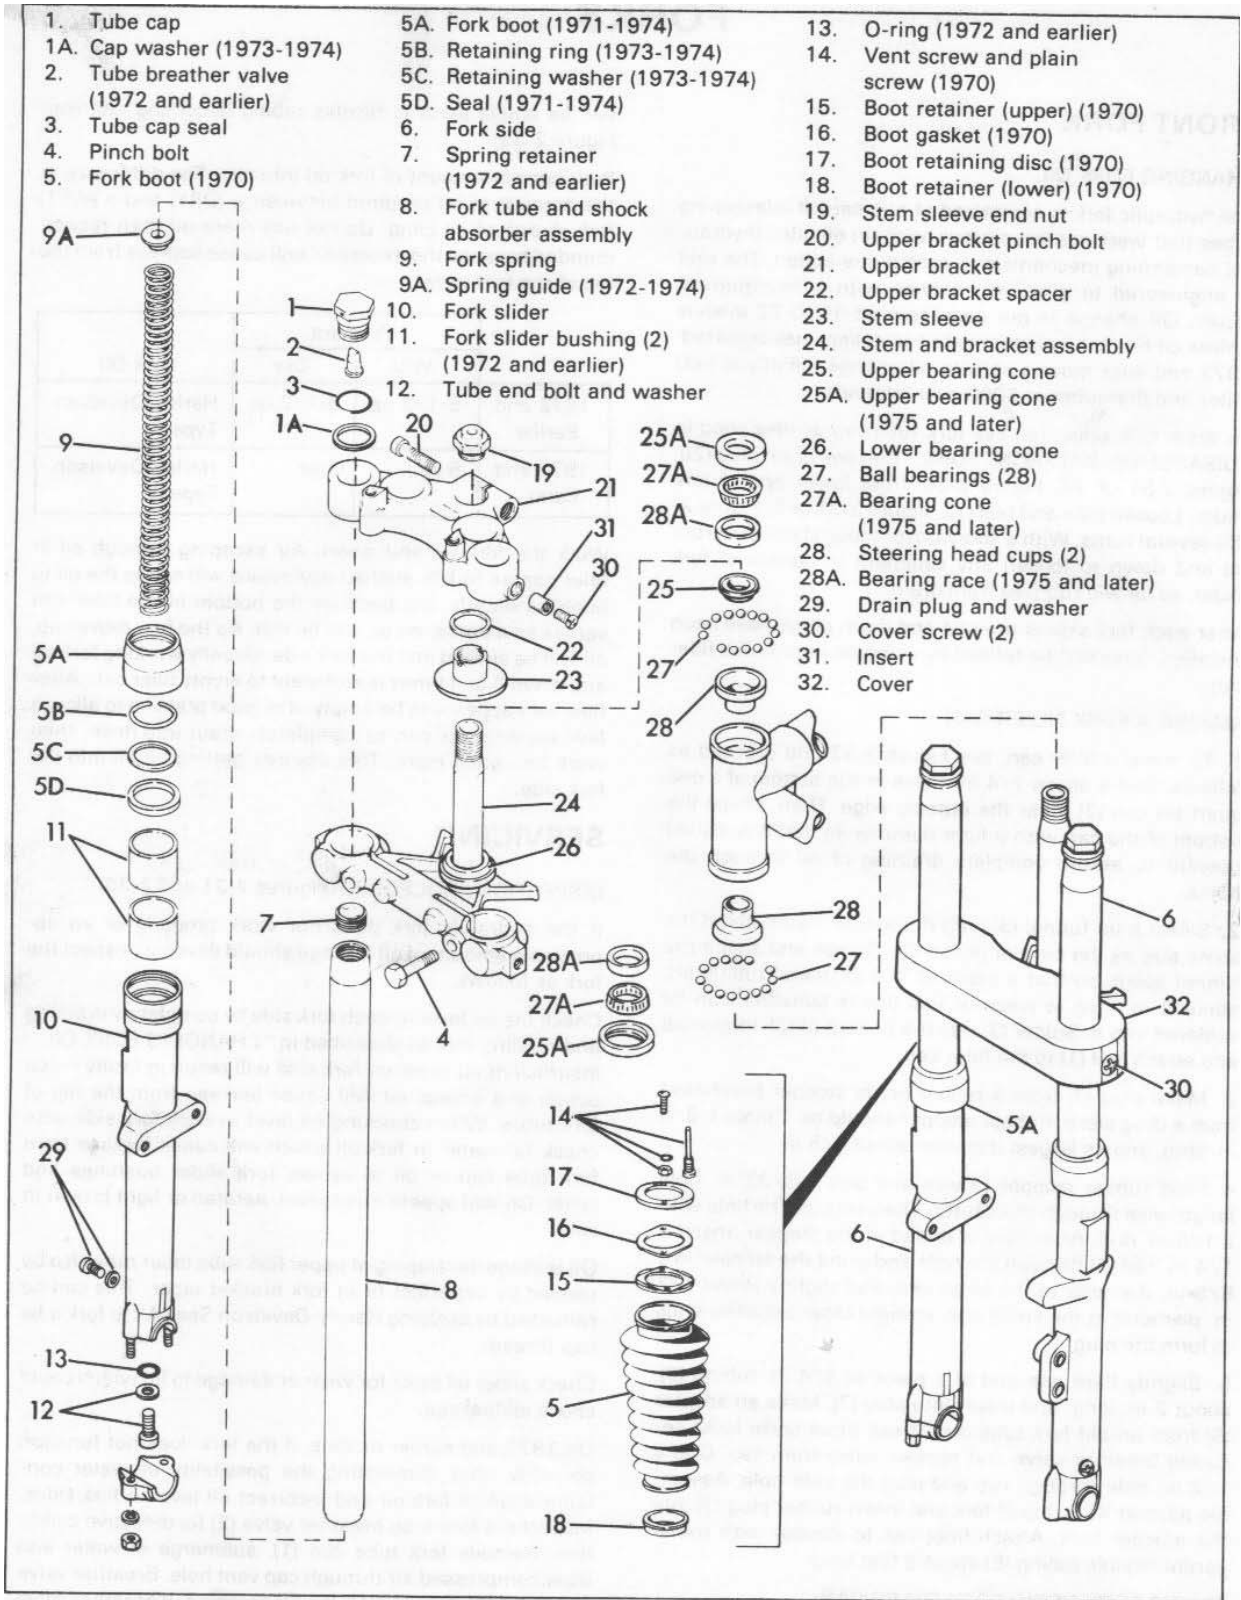
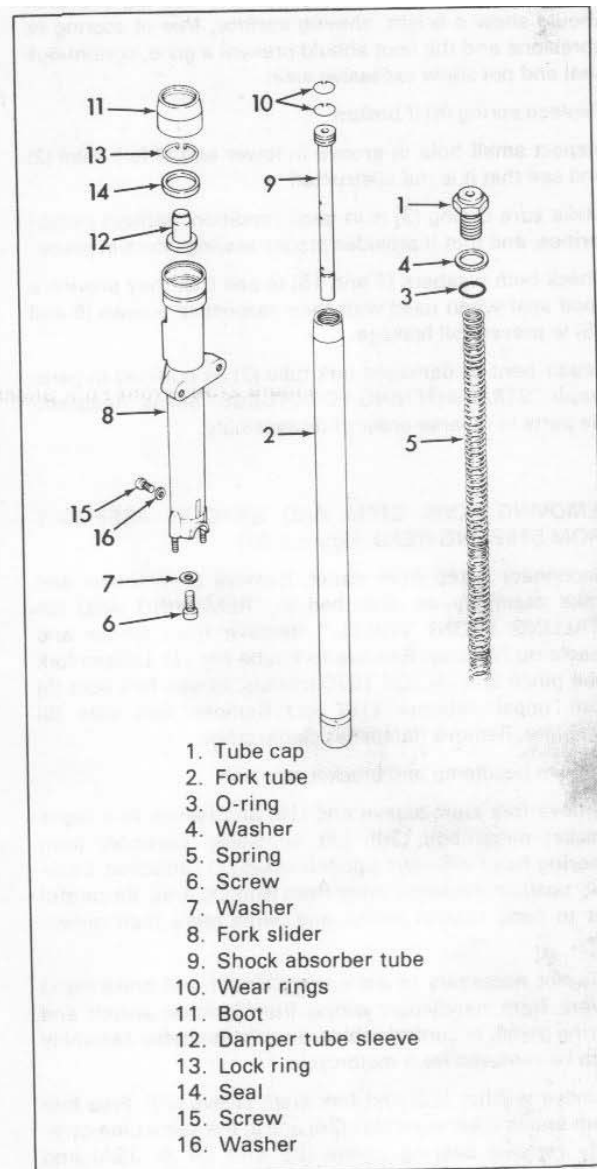

Figure 2-31. Front Fork and Steering Head - Exploded View
Figure 2-36. Front Fork and Shock Absorber, Exploded View - 1975 and Later
To drain fork sides, remove fork tube cap as described in "DISASSEMBLING FRONT FORK." Remove drain plug (29, Figure 2-31 or 15, Figure 2-36) from lower end of fork slider. Loosen tube end bolt (12, Figure 2-31 or 6, Figure 2-36) several turns. With a screwdriver move shock absorber up and down to loosen any sediment in bottom of fork slider, so oil will run free from drain.
### INSPECTION PROCEDURE (Figures 2-31 and 2-36)
See Figure 2-31. Examine fork tube (8) for scoring and badly worn sliding surface. Inspect fork slider bushings (11) in fork slider (10) for wear and scoring. Insert tube (8) in fork slider (10) and work up and down. If tube has appreciable play in slider, replace slider bushings. See "REMOVING FORK SLIDER BUSHINGS."
**REPLACING 1972 AND EARLIER BREATHER VALVE (Figure 2-31)**
#### REPLACING FORK BOOT PARTS (1970 ONLY) (Figure 2-31)
If fork tube slider bushings (11, Figure 2-31) are being replaced, install them before replacing lower fork boot retainer.
### DISASSEMBLING FRONT FORK (Figure 2-31)
#### DISASSEMBLING, ASSEMBLING AND REPAIRING FRONT FORK - 1975 AND LATER (Figure 2-36)
While Figure 2-31 applies to earlier models, parts (30, 32, 4 and 21) are similar and are referenced below.
Referring to Figure 2-31, remove two screws (30) so the cover (32) can be slid up out of the way, exposing the lower fork bracket. Loosen fork tube pinch bolts (4). Loosen screw (30) in upper fork bracket (21).
Remove the instrument (either the speedometer or tachometer) attached to tube cap (1), Figure 2-36, of the fork side being removed. Unscrew tube cap (1) from fork tube (2). Remove fork side completely by sliding down and out of both upper and lower fork brackets. Drain oil from fork.
Referring to Figure 2-36, disassemble the fork side as follows.
#### REMOVING FORK STEM AND BRACKET ASSEMBLY FROM STEERING HEAD (Figure 2-31)